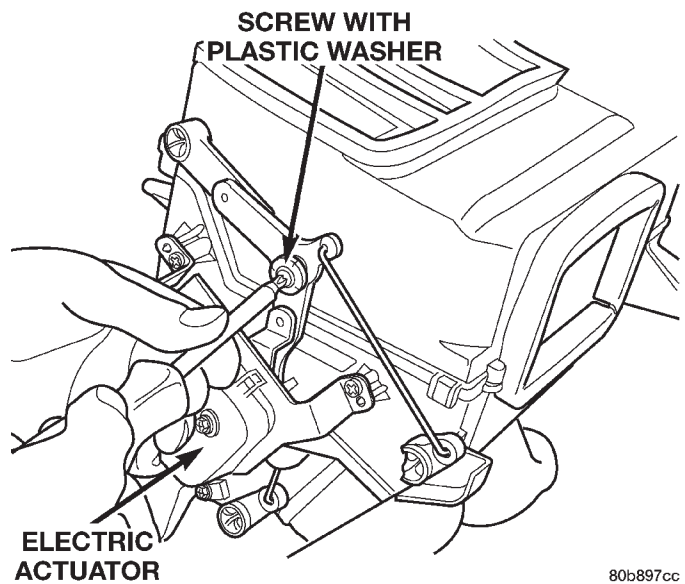

Fig. 20 Remove Screw with Plastic Washer
(6) Remove the screw with plastic washer holding the lever assembly to the upper case section, and move aside (Fig. 20).